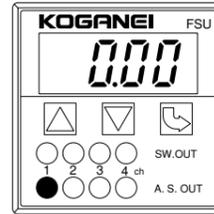

Figure 2
- The flow rate of the selected channel is indicated in the LED display. (The selected channel's A.S.OUT LED (green) lights up. See Figure 2.)